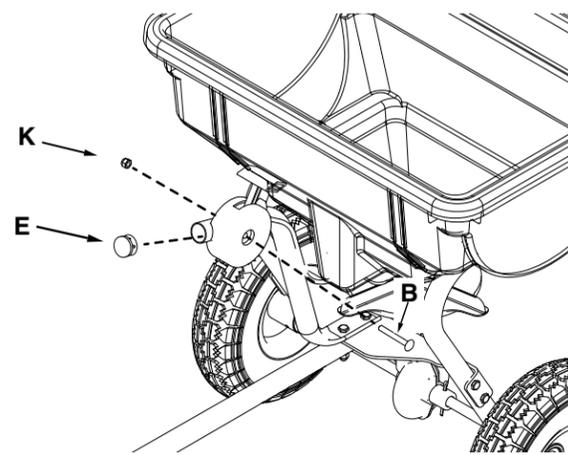

Figure 9
STEP 9 (SEE FIGURE 9): Attach the control cable to the control tube using a 1/4 x 2" carriage bolt (B) and 1/4" nylock nut (K). Insert a tube plug (E) into the end of the control tube.